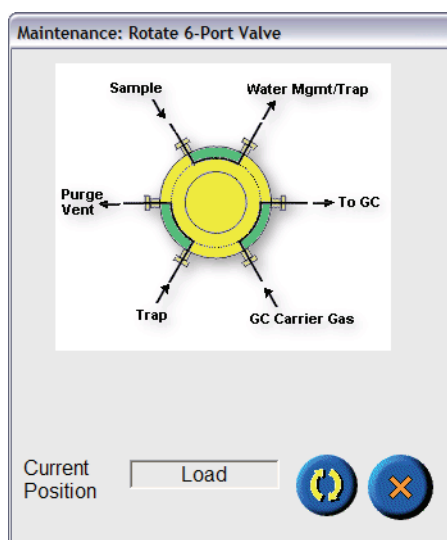

Figure 6.33. 6-Port Valve in the “Load” Position
2. Verify that the 6-port valve is in the “Load” position (refer to Figure 6.33).